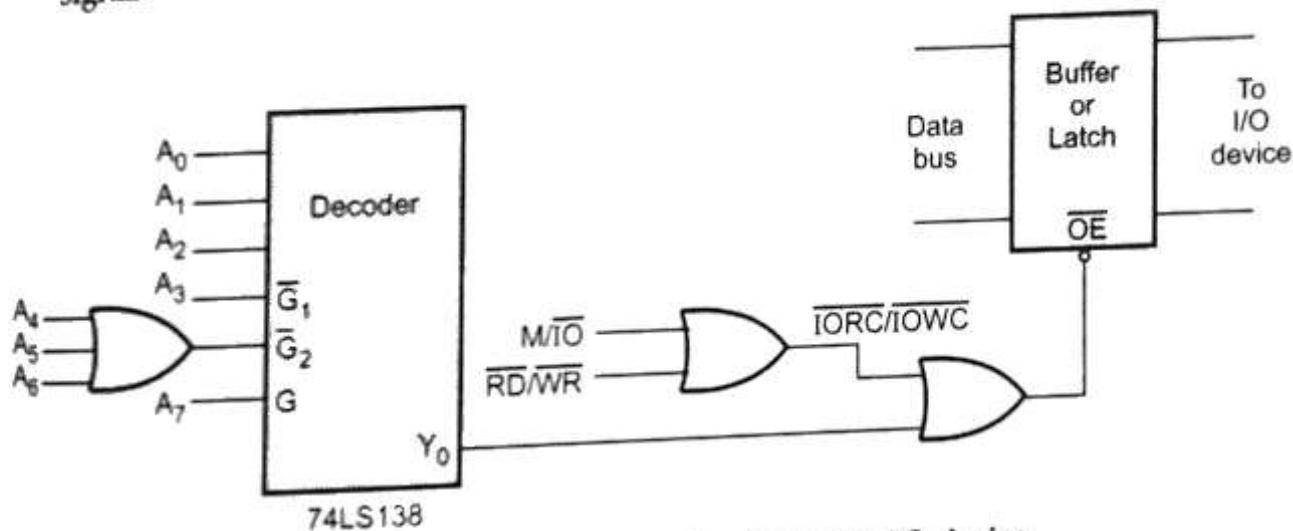

Fig 3.1.1 Absolute decoding circuit for the I/O device
- Fig. 3.1.1 shows the absolute decoding circuit for the I/O device. The IC 74LS138, 3:8 decoder along with OR gate is used to generate device address signal. This signal is ORed with control signal ($\overline{\text{IORC}}$ or $\overline{\text{IOWC}}$) to generate device select signal.